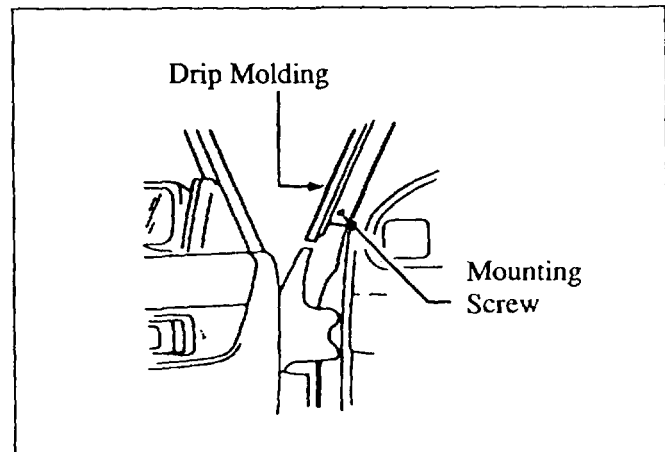

Figure 10: "A" pillar area
- Open the front door and remove the mounting screw from the lower side of the drip molding. **Figure 10.**